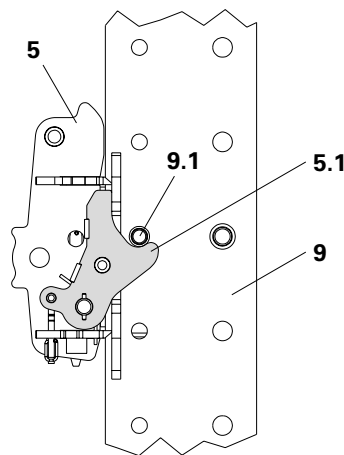

Fig. D4.13
- Set climbing unit down on the climbing pawls (5.1) of the activated climbing shoes. (Fig. D4.13)